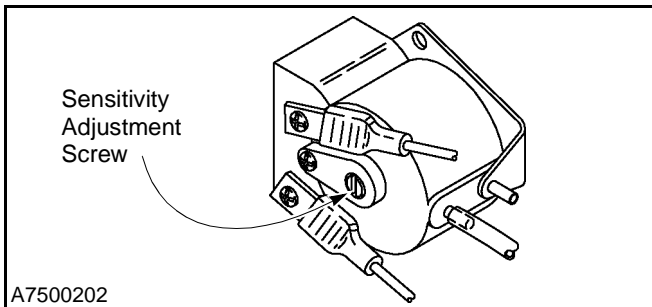

Figure 78
5. To adjust the switch, first turn the small adjustment screw, located on the face of the switch, clockwise or counterclockwise until continuity is achieved across the ohmmeter. (See Figure 78.)